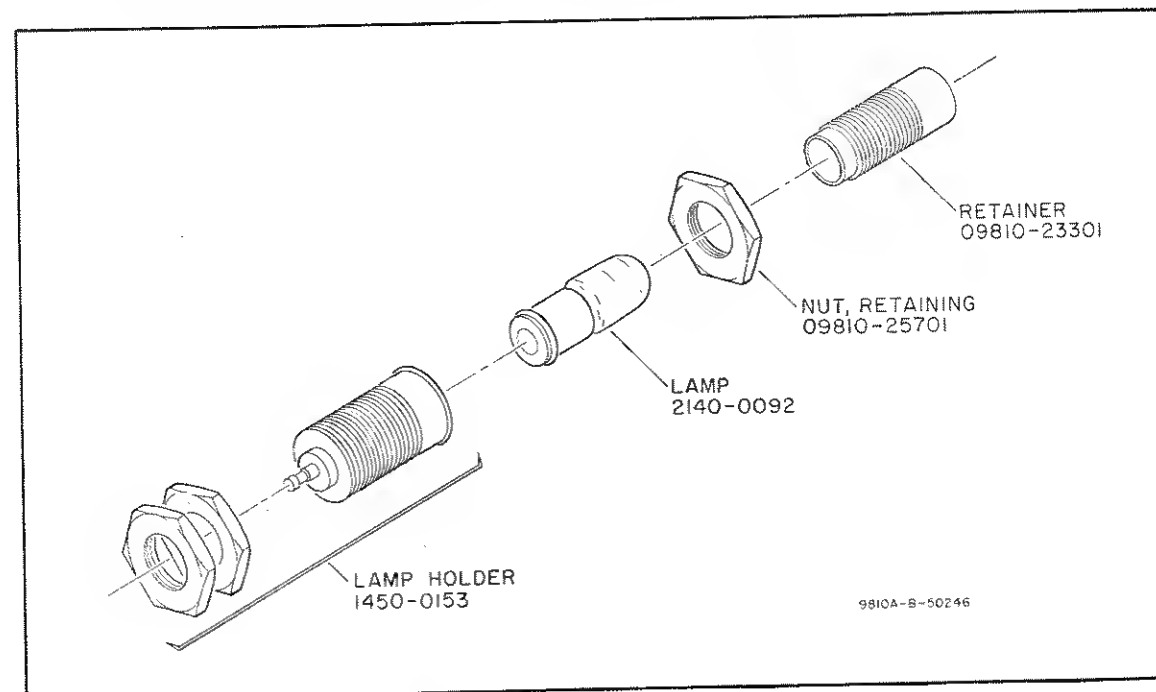

Figure 8-2. Lamp Replacement
- c. Loosen brass nut on the front (Lamp) end of the assembly with a  $\frac{3}{16}$ " wrench. (See Figure 8-2.)